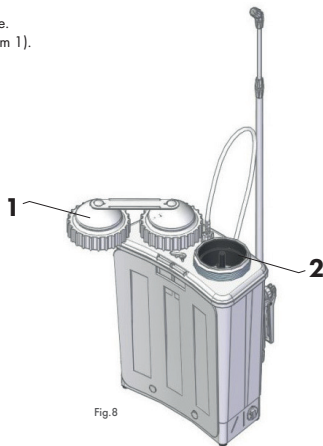

Fig.8
Unscrew the filling unit safety cap (Fig. 8/item 1).
Pour the previously prepared spraying liquid through the strainer underneath (Fig. 8/item 2). Any dirt which may have found its way into the strainer should be discarded. Screw on filling unit safety cap. The strainer can remain under the cap. Move the sprayer to the workplace. Now you can put the sprayer on your back and adjust the straps. **Lift the sprayer by the straps without the safety buckle.** Adjust and fasten the hip belt. Point the lance spray tip at the spray area and begin spraying by using the lever on the lance handle (Fig. 11 / item 2). Spray in the direction of the wind.